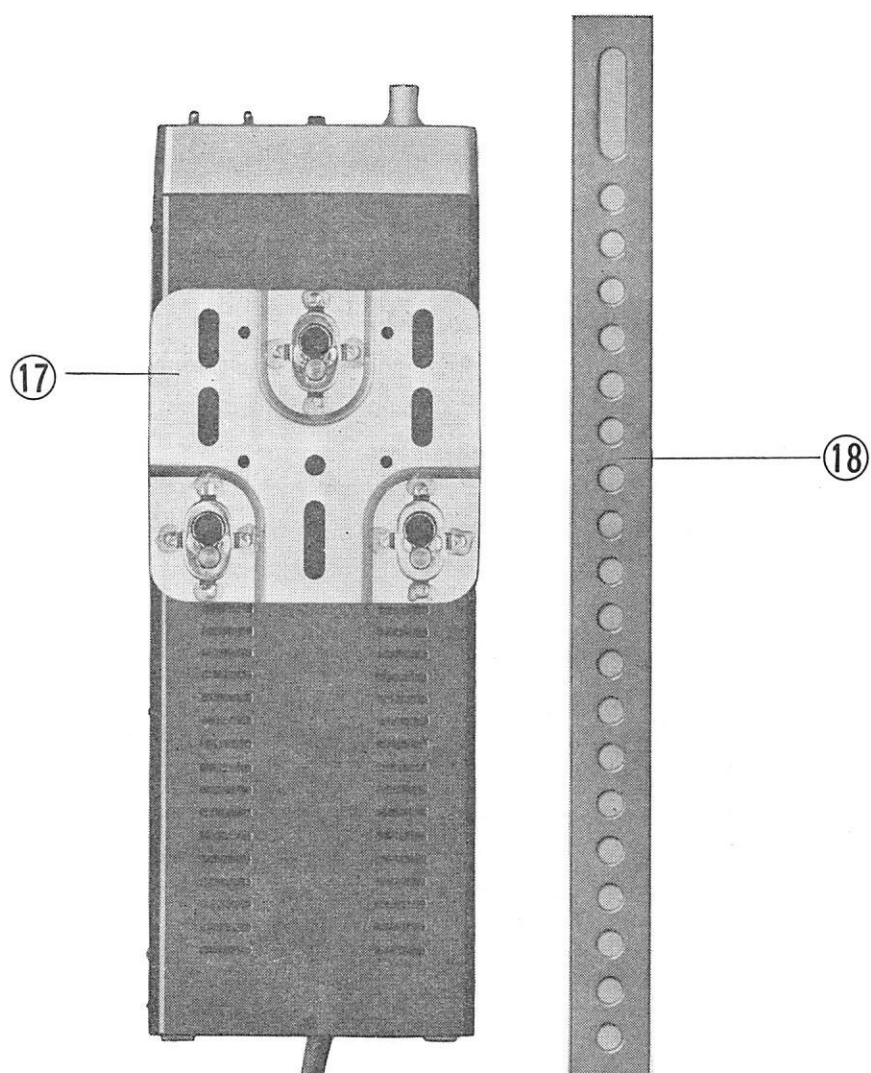

Figure 2-1
1. Take out the furnished mounting metal bracket (17) and attach it to the body of the transceiver.
5. Firmly secure the antenna to the antenna connector (13). Refer to Fig. 2-1.
6. Connect the microphone to the microphone connector (3) on the front of the transceiver, and fix the supplied microphone hanger on a convenient place for lifting (see Fig. 2-1).